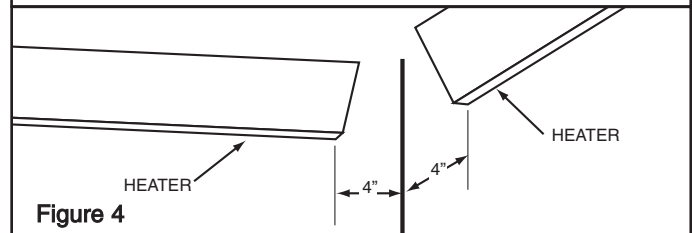

Figure 4
- Heaters must be located so that the ends of each heater are 4 inches (102 mm) from side wall. See Figure 4.